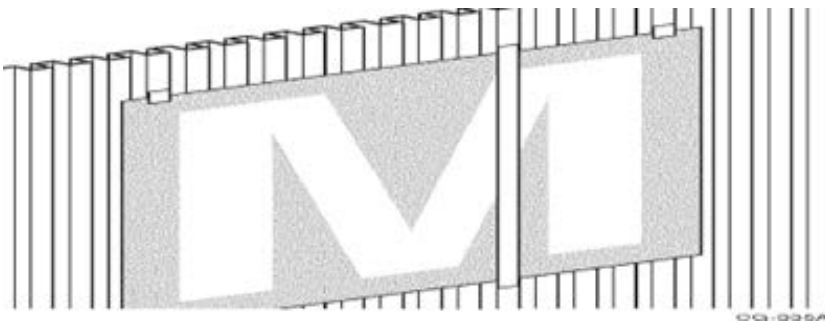

Figure 6. Vertical Hinge
2. Apply the first panel to the rear of the trailer using masking tape or magnets to create a vertical hinge. See Figure 6.